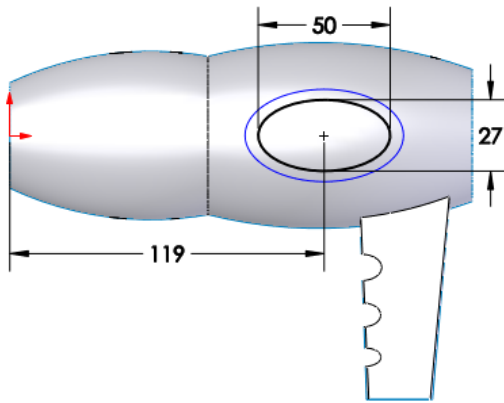

Figure 1-155 Sketch to be created
5. Next, invoke the sketching environment by using the newly created plane as the sketching plane and create a sketch, as shown in Figure 1-155. Next, exit the sketching environment.